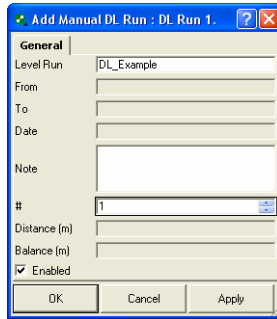

Figure 5-105. Add Manual DL Run dialog box
- In the *General* tab of the *Add Manual DL Run* dialog box (Figure 5-105) type in the name of the leveling job and set the number of the leveling.